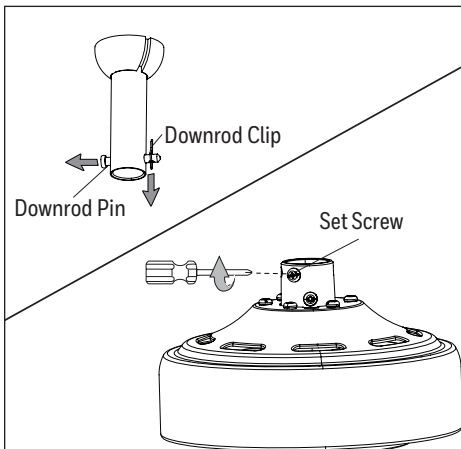

Figure 3.1
1. Remove the downrod clip and downrod pin from the downrod. Then partially loosen the two set screws in the yoke at the top of the motor assembly (Figure 3.1).